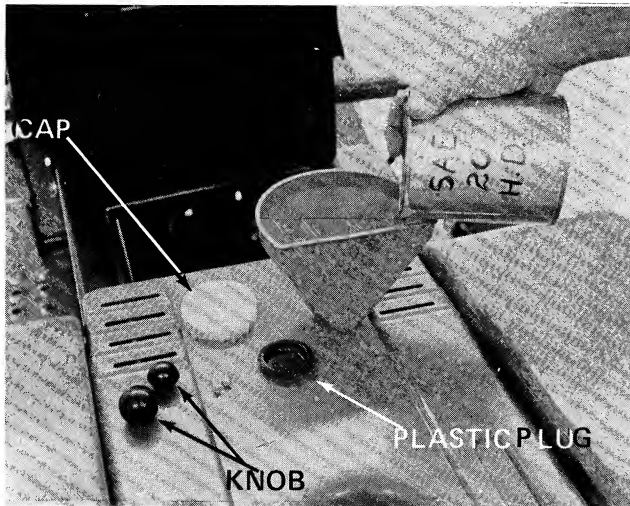

FIGURE 13
4. If it is necessary to add oil, unscrew the cap on the reservoir/expansion tank and add oil through the hole with a funnel. Do not overfill. See figure 13.